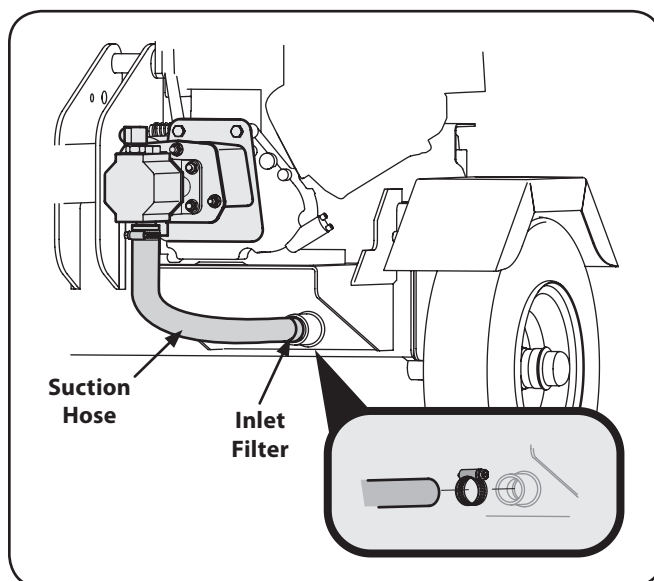

Figure 6-1
3. Carefully unthread the inlet filter and clean it with penetrating oil. See Fig. 6-1.